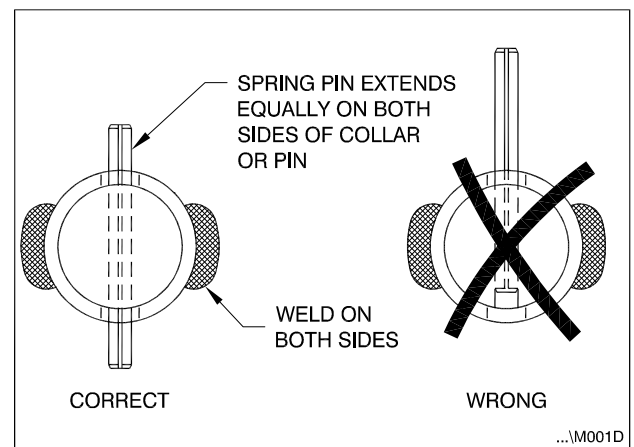
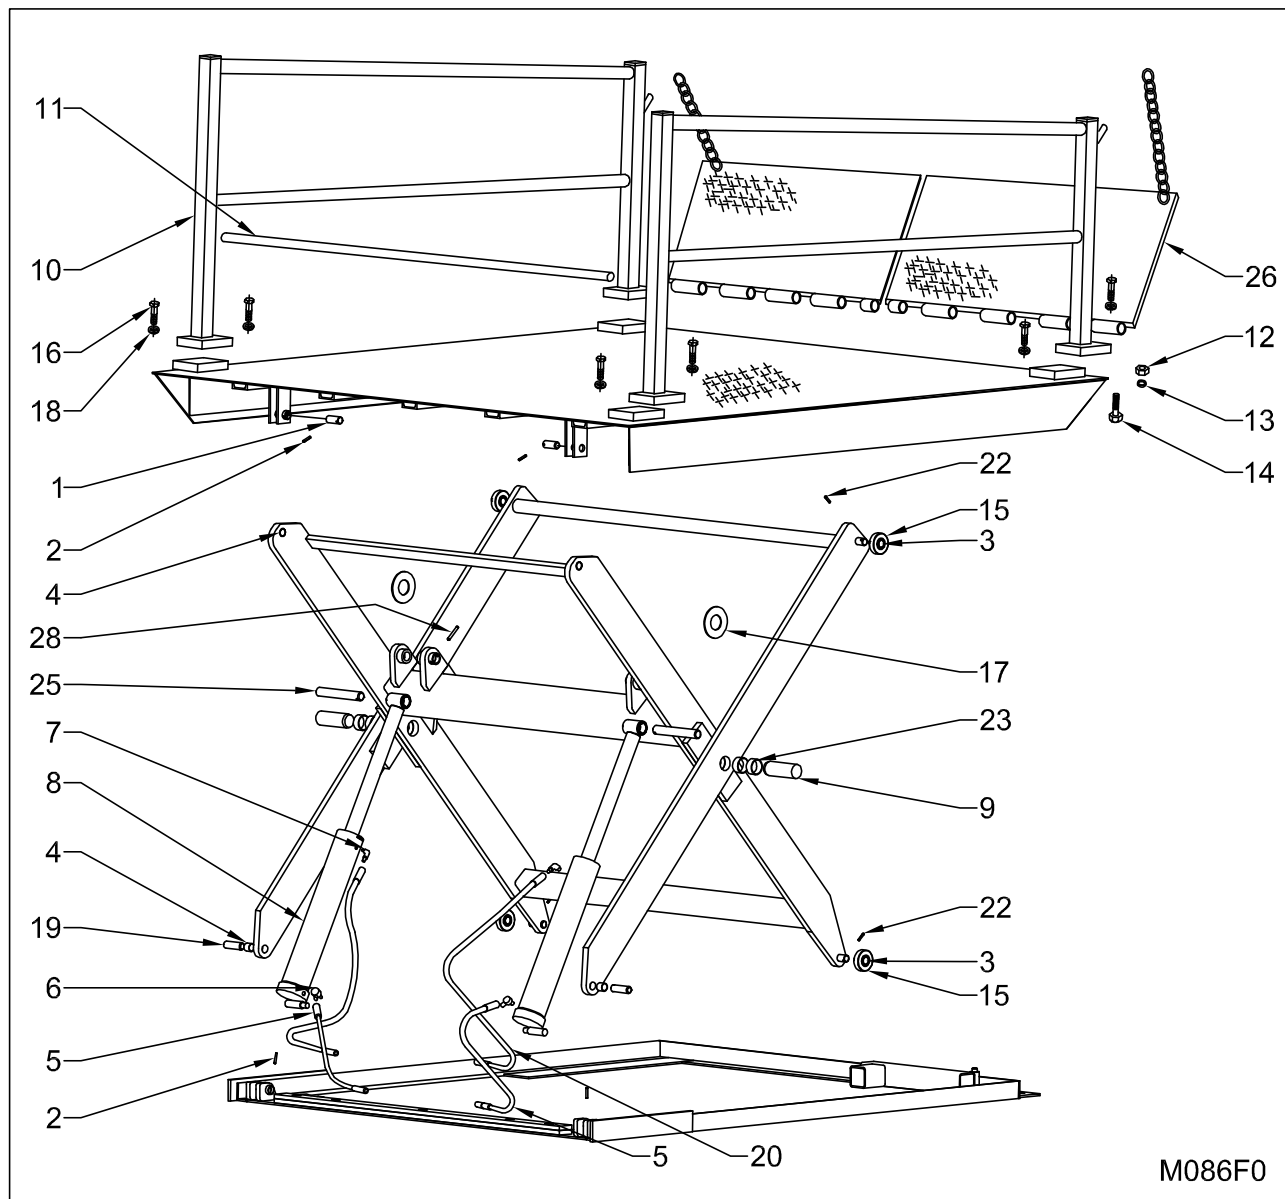

Figure 11: Spring Pins
Figure 13: Replacement Parts
2. Check for presence and proper seating of all spring pins on all axles, cylinders and rollers. Confirm that all welds on the spring pin collars are intact. (See "Figure 11: Spring Pins" on page 17)
Check all spring pins, items 2, 29 and 35 in Figure 13, page 19, to confirm they are not damaged and that they are properly inserted. Confirm that all welds on the spring pin collars are intact. (See Figure 11, page 16)